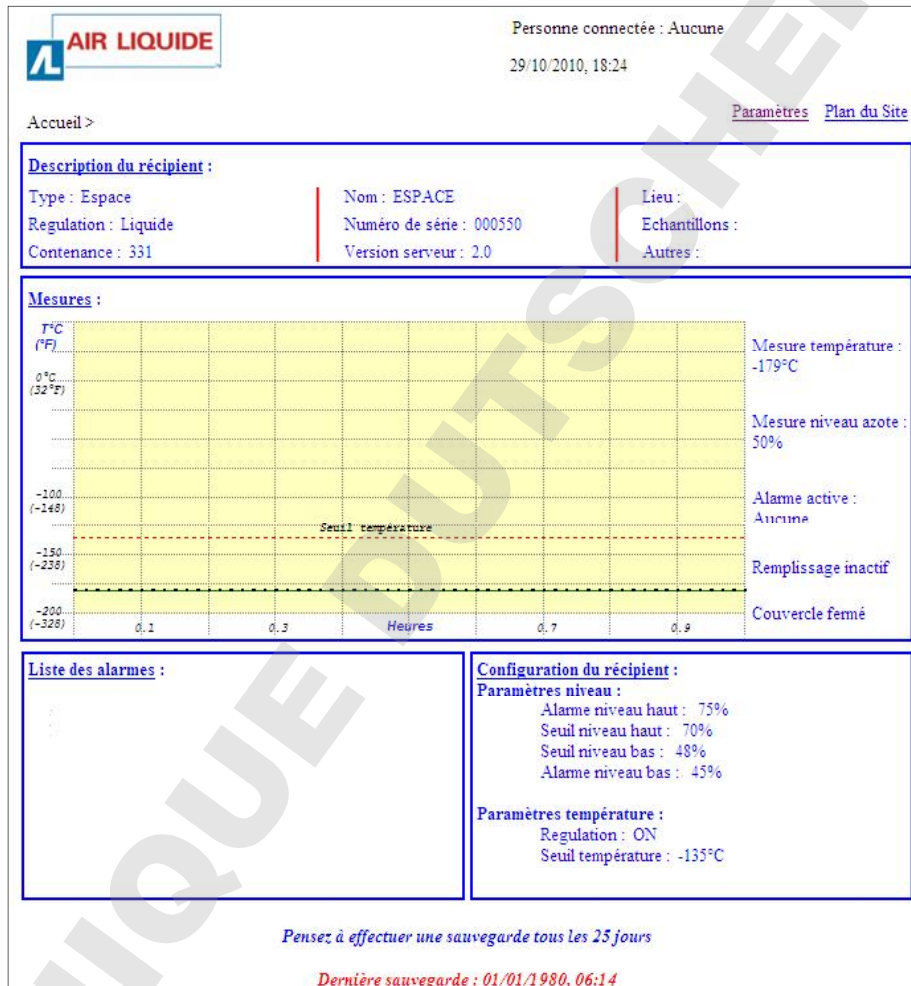

Figure 11-2: example of Welcome page.
3. The *Home* page is displayed (see Figure 11-2).